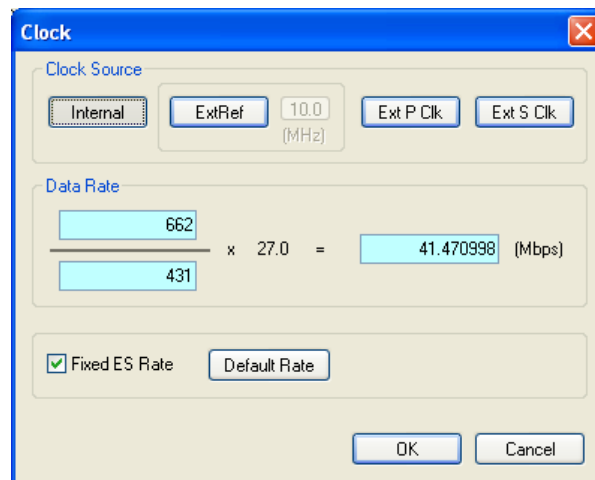

Figure 2-2: Clock dialog box settings
5. In the Play menu, click Clock... to open the Clock dialog box shown in Figure 2-2.
- b. Verify that the Data Rate is set to 41.470998 Mbps as shown in Figure 2-2.